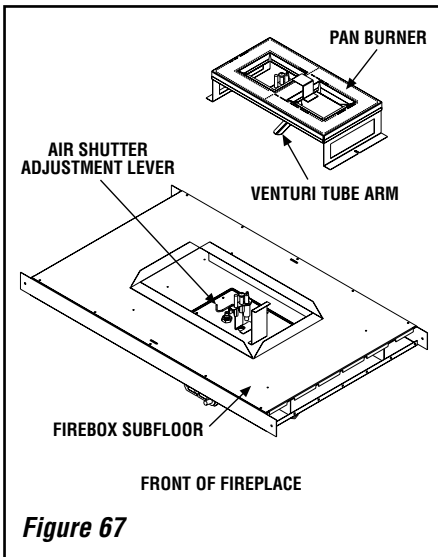

Figure 67
Step 3. Referring to **Figure 67**, remove the burner.
Step 8. (Refer to **Figure 67**)
Ensure that the arm of the venturi of the burner is hooked onto the air shutter adjustment lever (refer to **Figure 67 on page 41**). The primary air opening can be adjusted by rotating the adjustment lever from beneath the firebox floor. Refer to **Figure 65 on page 36** for the recommended minimum primary air opening setting.